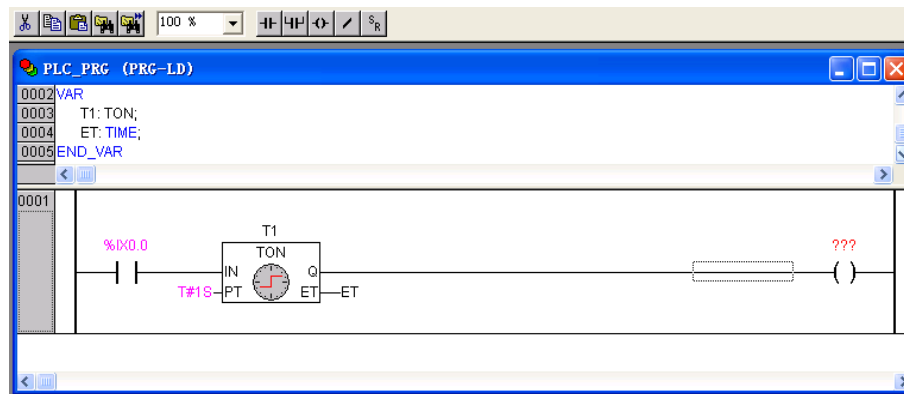

Figure 3-6-7 Programming Step (7)
- Put the cursor after “T1”, then click the coil button “” on tool bar, a coil “^{???}—()—” will appear at the cursor position, as shown in figure 3-6-7.